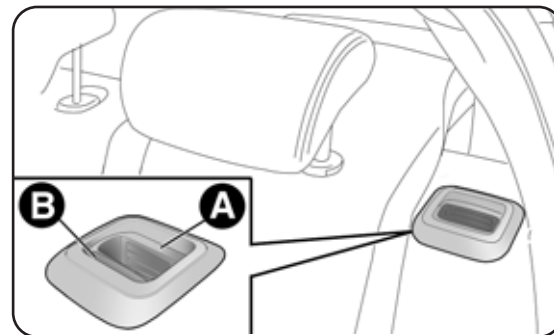

fig. 75
- lift the lever A-fig. 75 to fold the left or right portion of the backrest and then accompany the backrest and the cushion (a red strip B will appear when the lever A is lifted) .
Lift up the backrest and push it back until a click is heard for the engagement mechanism. Make sure that the red strip on levers A-fig. 75. is no longer visible; if it is, this indicates that the backrest has not engaged. Reposition the head restraints into their housings.